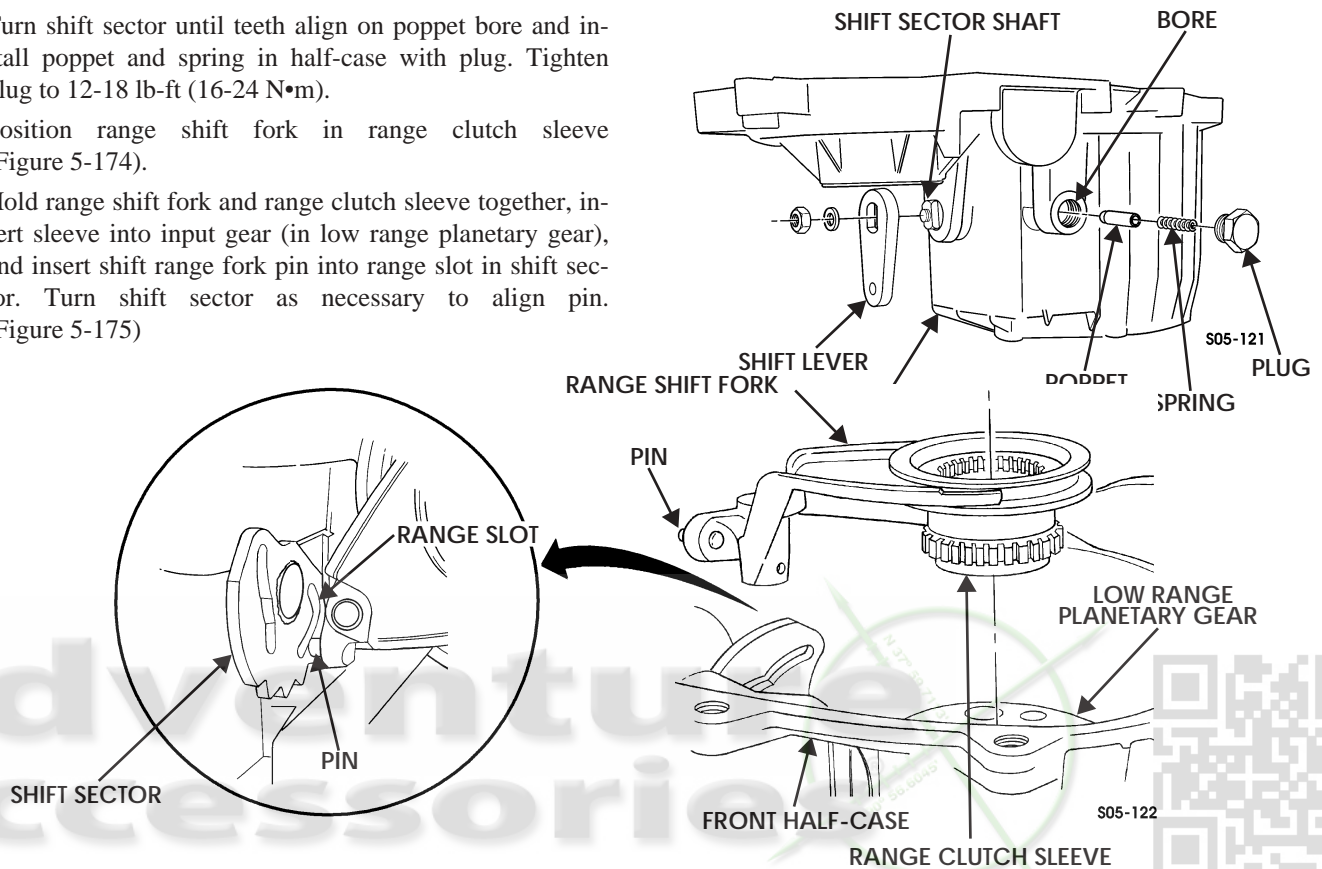

Figure 5-175: Shift Fork Location
11. Hold range shift fork and range clutch sleeve together, insert sleeve into input gear (in low range planetary gear), and insert shift range fork pin into range slot in shift sector. Turn shift sector as necessary to align pin. (Figure 5-175)